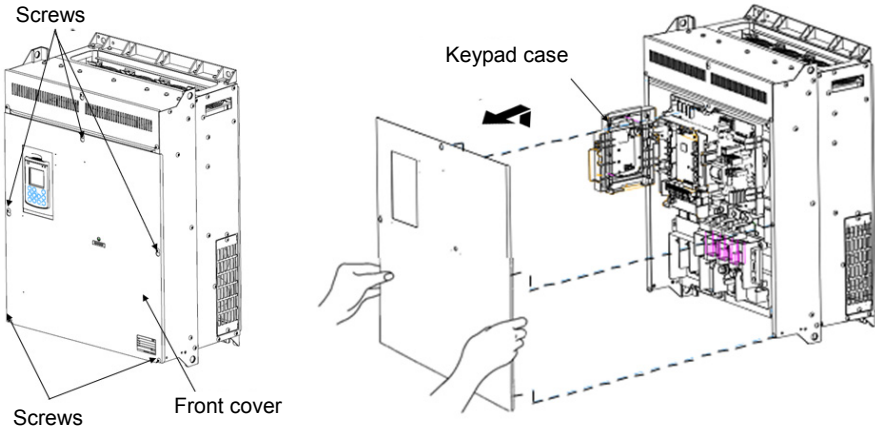

Figure 2.3 Removing the Front Cover and the Wiring Plate (FRN110AQ1S-4□)
(2) 110 to 710 kW
- ① Loosen the screws on the front cover, hold the right and left ends of the front cover, and slide it up to remove it.
- ② After making the necessary wiring connections, align the top of the front cover with the holes on the unit and reattach the cover by reversing the process illustrated in Figure 2.3.